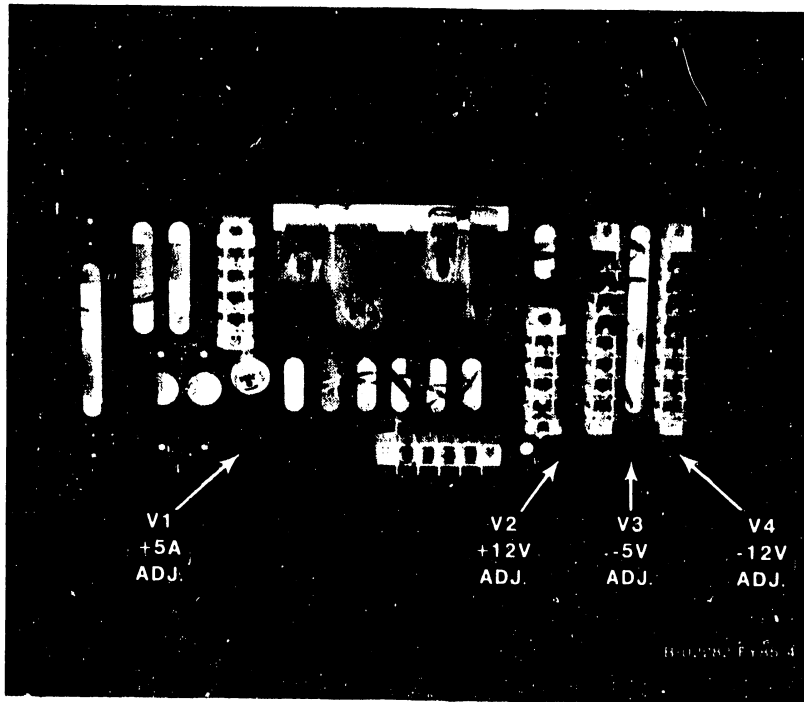

Figure 5-1. Multioutput Power Supply
4. The following power supply voltages should be measured at the test points on the Power Supply Controller. Adjust the voltages to the readings listed below using the potentiometers on the front of the particular switching power supply at the rear of the mainframe (figures 5-1 and 5-2).